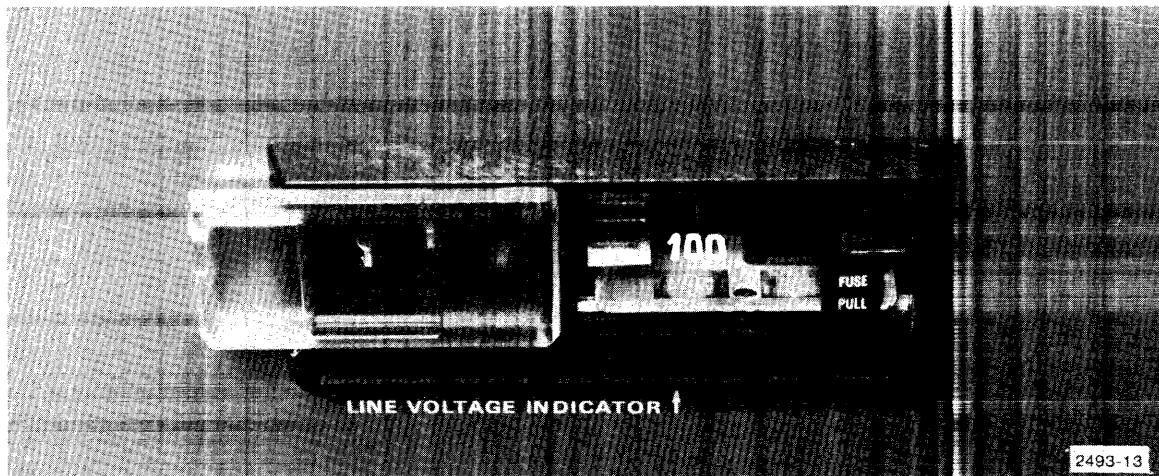

Figure 3-10. Card position for 100 V.
Line voltage in all 4907 cabinets have been factory-set to 100, 120, 220 or 240 volts. The voltage setting for your particular 4907 may be seen through the plastic viewport in the rear of the cabinet. See Figures 3-10 through 3-13. The voltage may be changed by following the procedures shown below.
4. Reinsert circuit card so that only the line voltage desired may be read after card is reinserted and viewport closed (Figures 3-10, 3-11, 3-12 and 3-13).